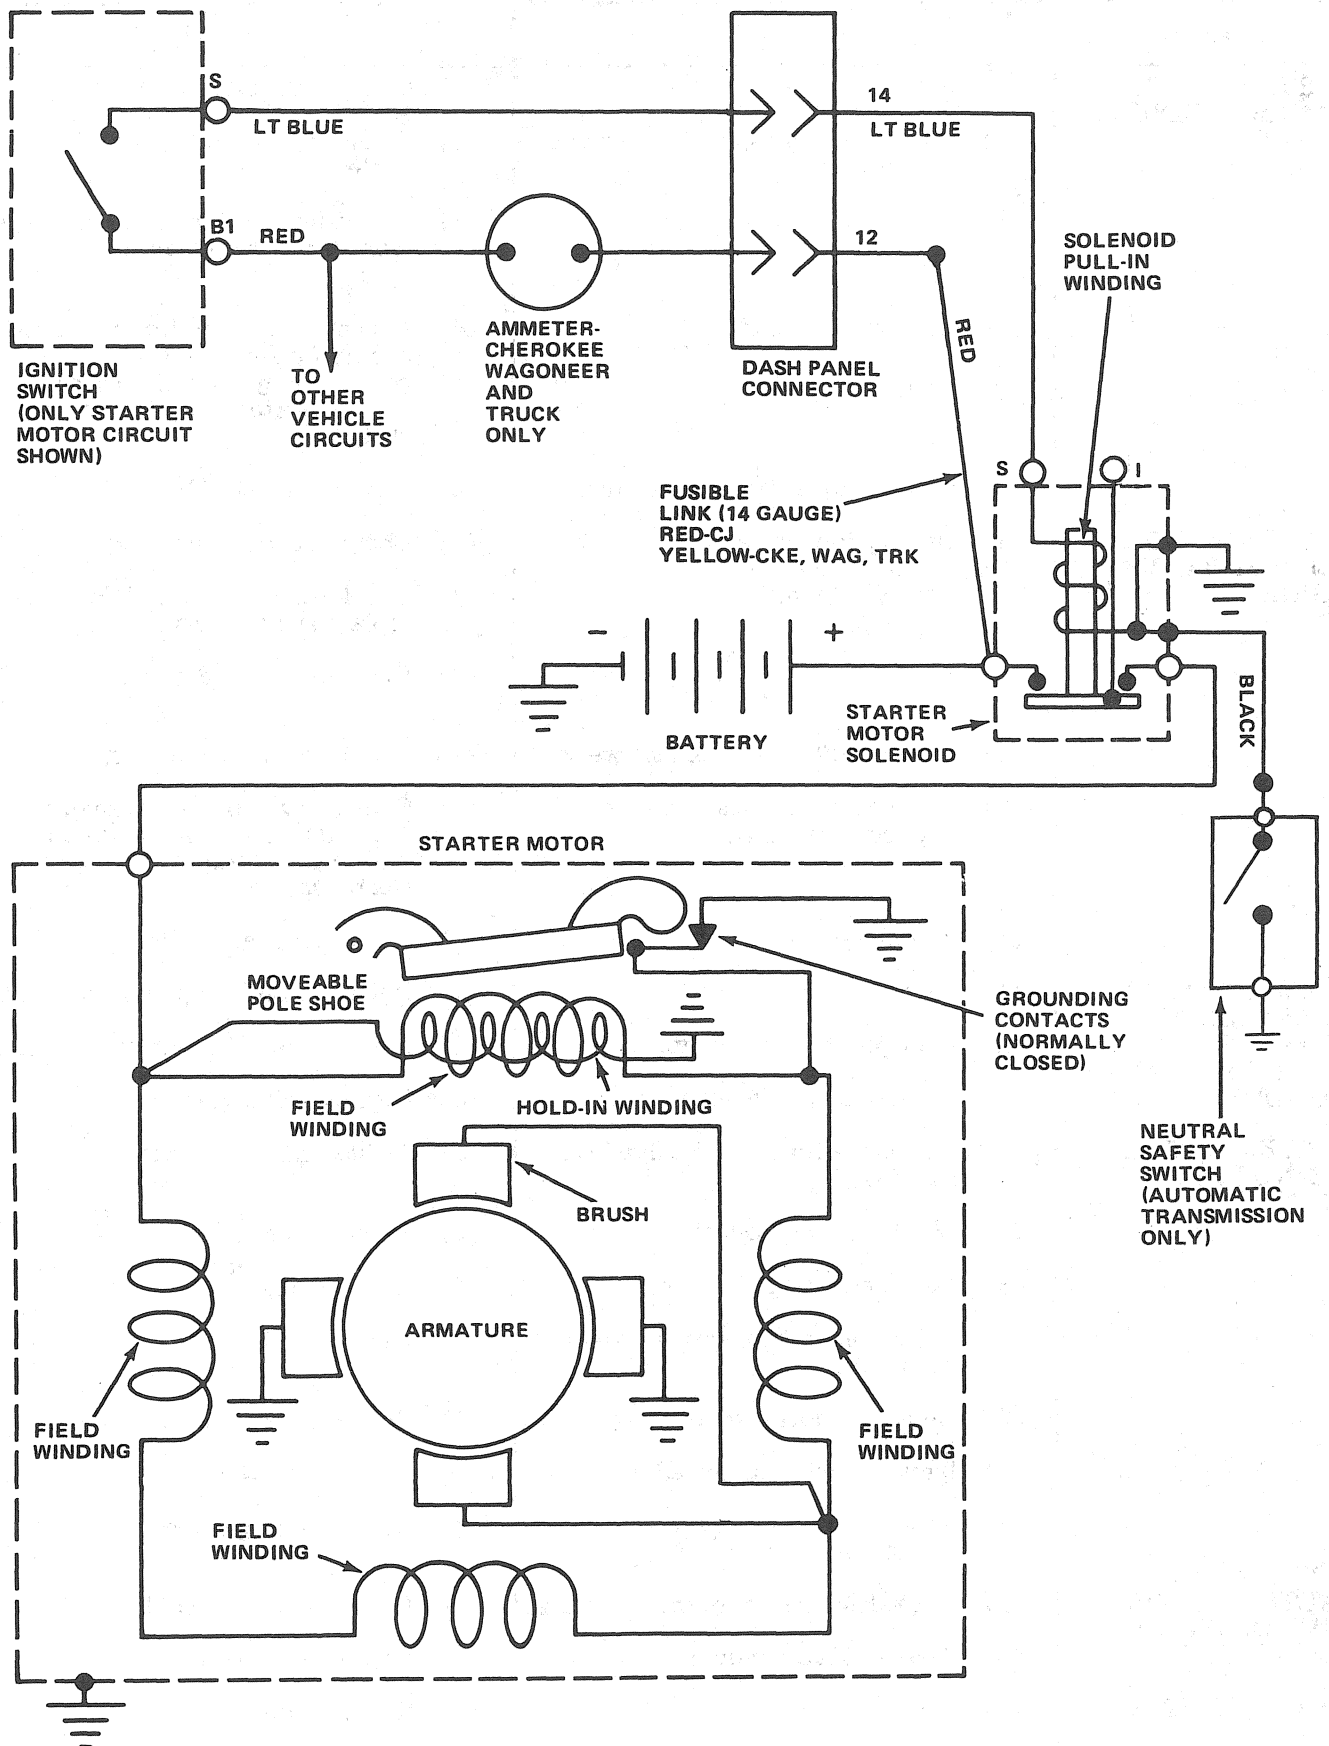

Fig. 1F-12 Six- and Eight-Cylinder Engine Starting System Schematic
(1) Disconnect S-terminal wire from solenoid.
(2) Connect ohmmeter test probes (fig. 1F-13) to S-terminal and mounting bracket (manual transmission only) or ground terminal (automatic transmission only).
(3) If solenoid fails test, replace solenoid.
NOTE: A poor solenoid ground can be determined by connecting one ohmmeter lead to the battery negative terminal and other lead to S-terminal. If resistance is greater than in the S-terminal-to-mount bracket test (fig. 1F-13), the solenoid has a poor ground.